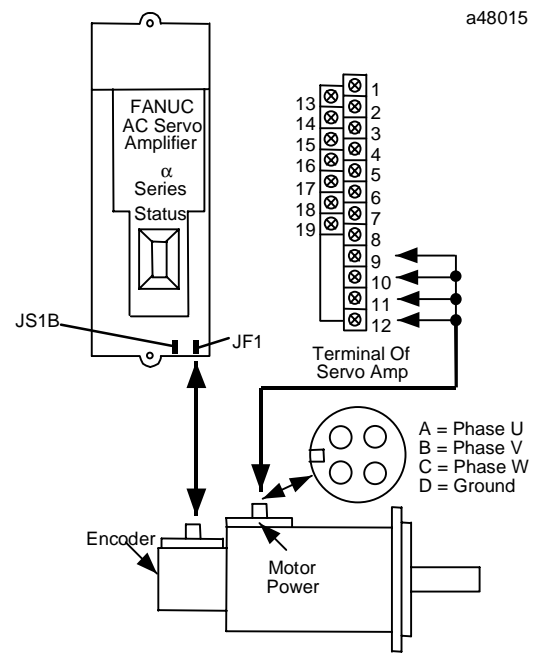

Figure 2-5. Connecting the Motor to the α Series Servo Amplifier Terminal Strip
- B. One end of this cable has four wires labeled U, V, W, and GND, which connect to screw terminals 9-12 on the servo amplifier. Connect these four wires to the terminal strip as shown in Figure 2-5.